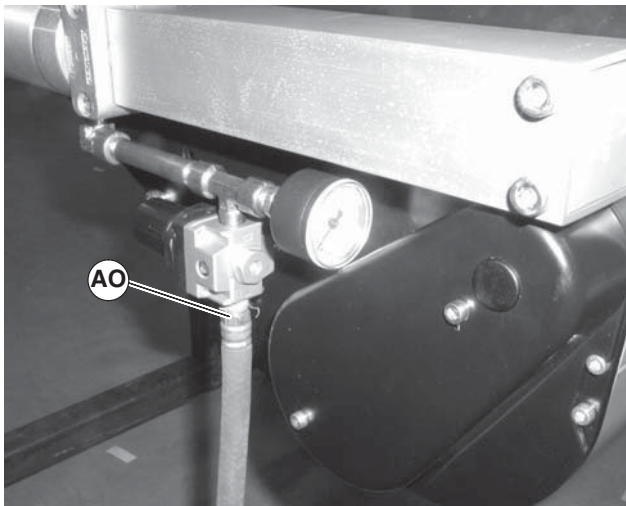

Figure 85
1. Remove air supply (Figure 85, item AO) from center drive module.